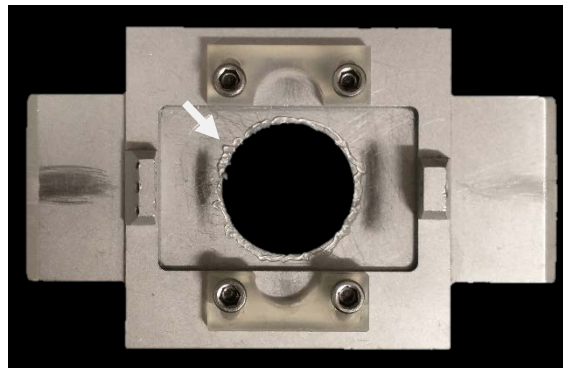

Figure 3. Platform chamber with grease (white arrow).
4. Add grease around the circle (facing up) of the 'platform chamber' (Figure 3).